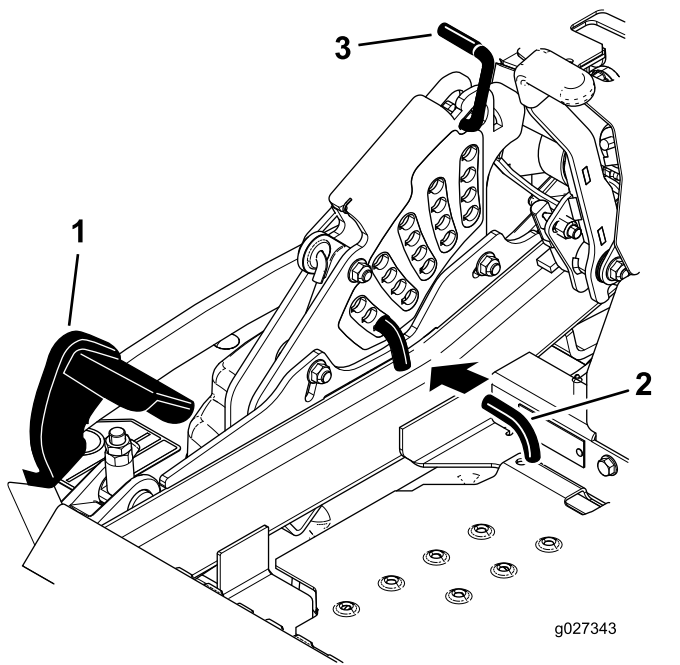

Figure 84
5. Push the deck-lift pedal all the way forward so that the deck latches at the 14 cm (5-1/2 inches) transport position (Figure 84).